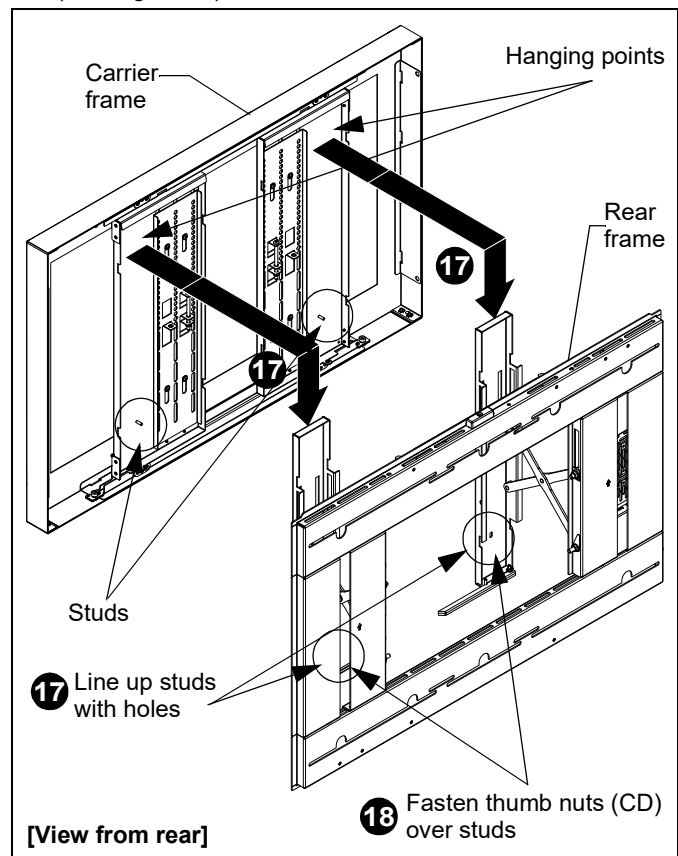

Figure 17
17. Hang outer cover/carrier frame over scissors assembly on rear frame, ensuring that studs on carrier frame line up with holes on scissors assembly. (See Figure 17)
18. Fasten thumb nuts (CD) over studs to connect. (See Figure 17)